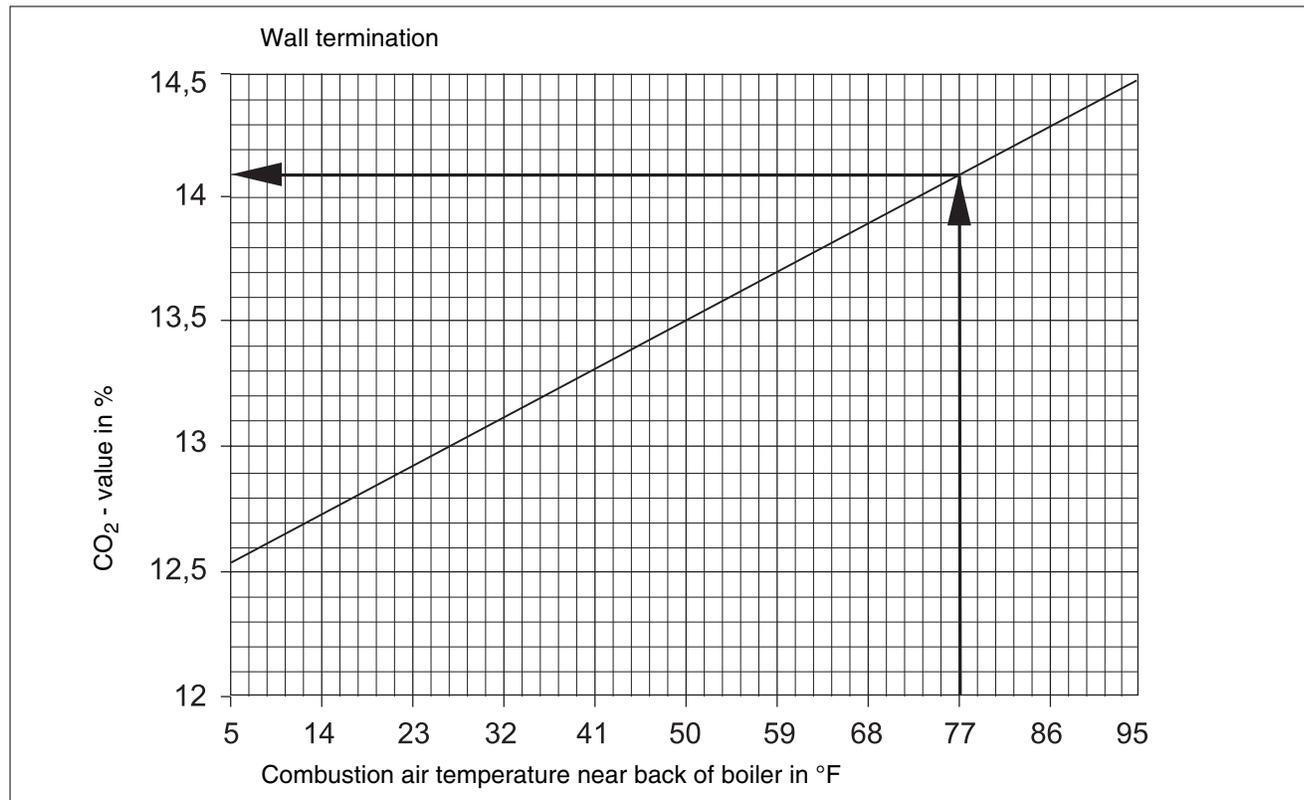

Fig. 15 CO₂-adjustment based on combustion air from outdoors with separate pipes for combustion air and exhaust (valid with or without burner hood installed)
- Compare measurements with Fig. 15.